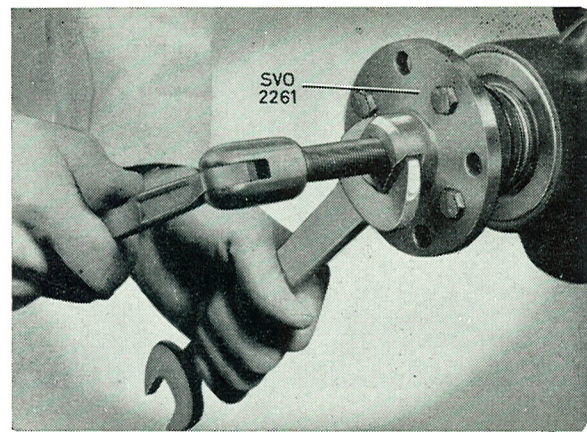

Fig. 4-89. Removing the flange
2. Remove the nut for the flange. For this purpose, use tool SVO 2854 as a counterhold. Pull off the flange with puller SVO 2261, see Fig. 4-89. Pull out the old oil seal with puller SVO 4030, see Fig. 90.
7. Turn the final drive and let the oil run out into a container. Remove the nut for the flange. Use for this purpose tool SVO 2854 as a counterhold. Pull off the flange with puller SVO 2261, see Fig. 4-89. Press out the pinion.